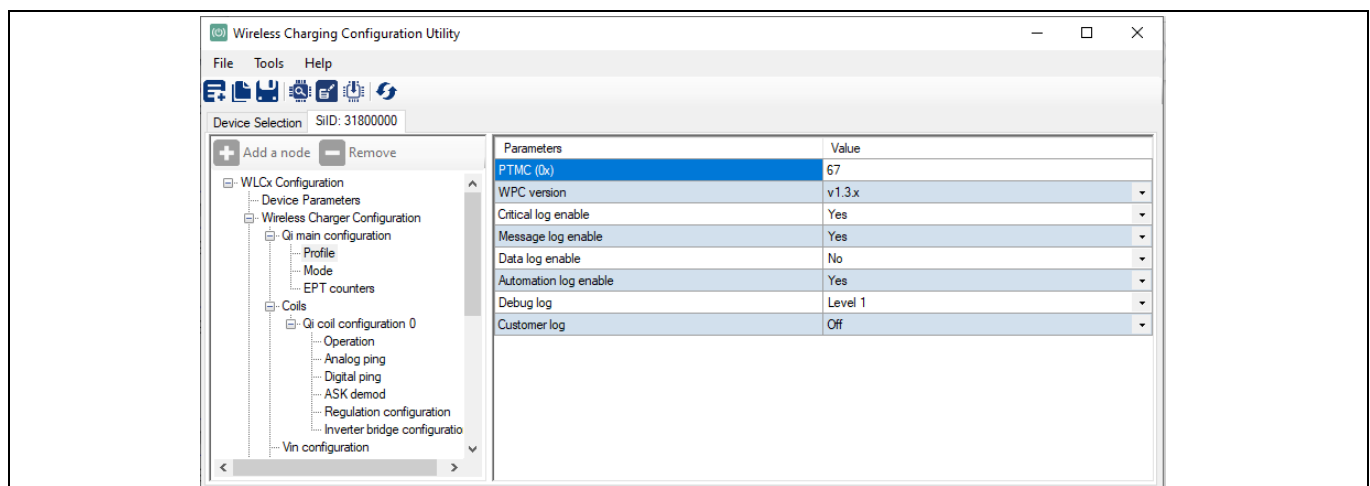

Figure 12 Profile page settings for enabling debug log
- f) The debug log can be enabled by configuring the following parameters in the transmitter “Profile” page in the Wireless Charging Configuration Utility (see Figure 12).